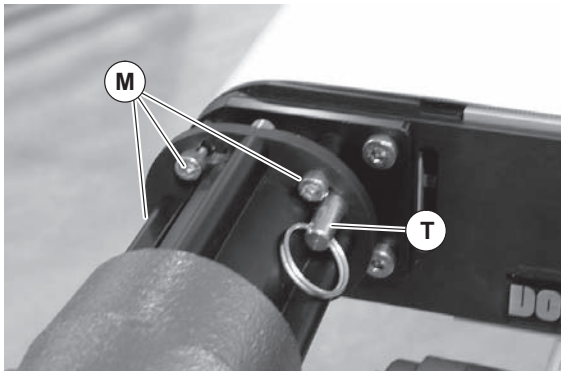

Figure 22
- a. Remove anti-rotation pin (Figure 22, item T), loosen four (4) screws (M) and rotate and remove the side drive assembly.